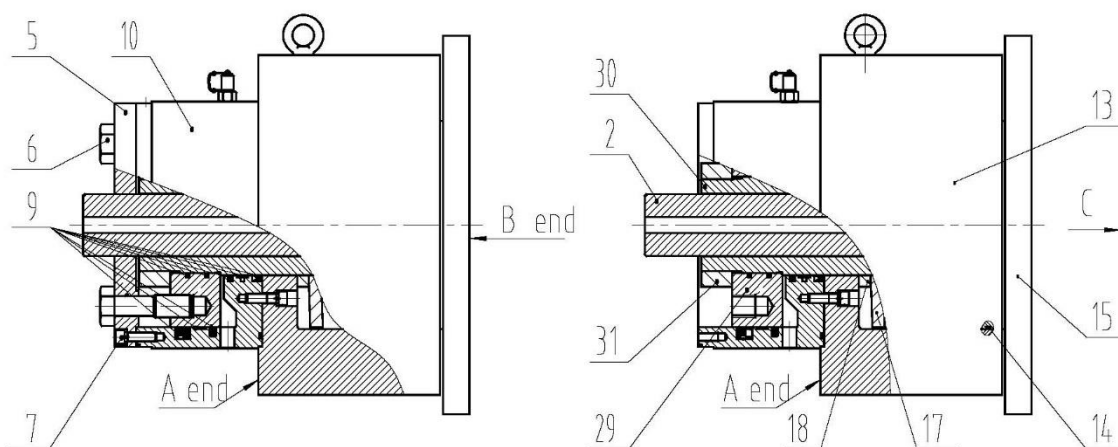

Fig. 14: Belleville spring washer replacement
- Refer to fig. 14. Fix end "A" and "B" with a jack in order to release the spring in a controlled manner.